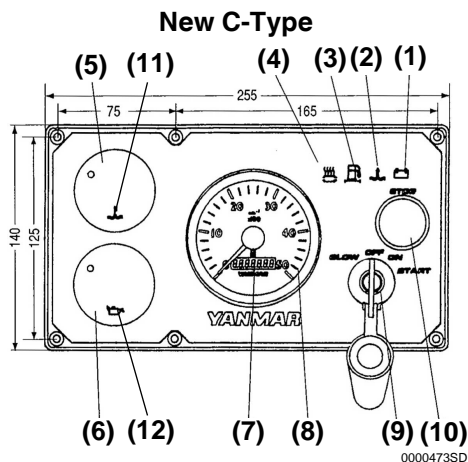

Figure 7
Turn the battery switch on. Turn the key to the ON position and check the lamps on the panel (**Figure 5, Figure 7**) with the engine off:
1. The lubricating oil warning lamp should be illuminated (**Figure 5, 3, Figure 7, 6**).
2. The cooling water temperature warning lamp should be out (**Figure 5, 4, Figure 7, 5**).
3. The charge warning lamp should be illuminated (**Figure 5, 1, Figure 7, 1**).
4. The rubber seal warning lamp should be out (**Figure 5, 2, Figure 7, 2**).